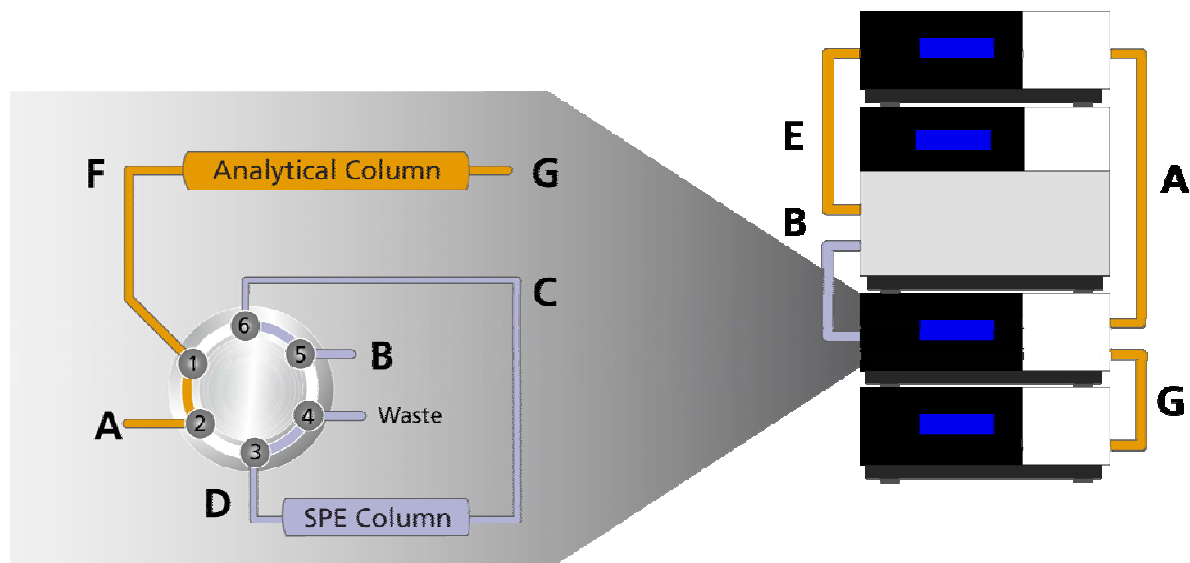

FIGURE 6-1: Schematic representation for Automated On-Line SPE-LC.
The schematic of the HPLC set-up for Automated On-Line SPE-LC is shown in FIGURE 6-1.
In preparation of the Automated On-Line SPE application, three constants have to be determined experimentally. The values will be used by the program wizard to calculate the valve switching times. To perform these experiments the same mobile phase, tubing and flow rate as for the sample analysis should be used. However the **analytical column is not required**. The system setup used for the experiments is similar to the setup as depicted in FIGURE 6-1. The valve is set to position 1_2 before starting with the experiments and both pumps are purged. The three constants are:
- The **Matrix Depletion Time (t_M)** is the time it takes at a given flow rate to completely elute the **sample matrix** from the SPE column. The waste line in port 4 on the 2-position/6-port valve (FIGURE 6-1) should be replaced with a connection to the detector to be able to monitor the elution profile of the sample matrix. The **Matrix Depletion Time** is the time **after the elution profile**, when the signal of the detector has returned to the baseline.
- The **Analyte Break Through Time (t_A)** is the time it takes at a given flow rate to start eluting the **analyte** from the SPE column. The waste line in port 4 on the 2-position/6-port valve (FIGURE 6-1) should be replaced with a connection to the detector to be able to monitor the elution profile of the analyte. The analyte should have a concentration similar to the expected analyte concentration in the sample and **t_A** should be **larger than $t(M)$** . The **Analyte Break Through Time** is the time just **before the elution profile** of the analyte.
- The **Transfer Time (t_T)** is the time it takes at a given flow rate to completely elute the analyte from the SPE column on to the analytical column. To determine the value for **t_T** the system should be setup as depicted in FIGURE 6-1 but **without analytical column**. With the valve in position 1_2 the analyte is injected on the SPE column. After the sample is trapped on the SPE column, the valve is switched to position 6_1. The analyte will elute from the SPE column with the mobile phase from **PumpLeft**. The **Transfer Time** is the time from the valve switch (observed in the baseline) to the time at which the analyte is eluted from the SPE column.